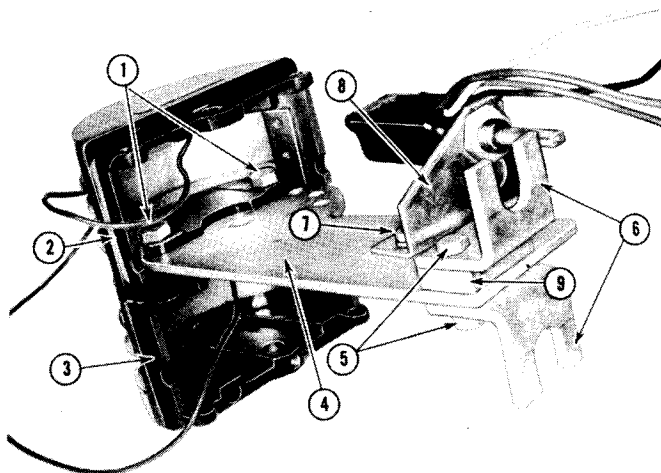

Figure 9-9
Remove cap screws (1, Fig. 9-9) separating lever brackets (2, 3) and adapter plate (4). Remove cap screws and nuts (5, 7) disconnecting cable brackets (6) and switch bracket (8).